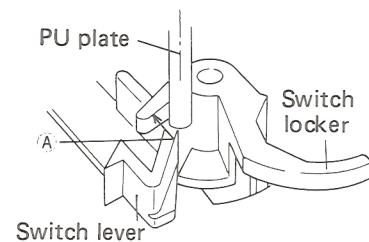

Fig. 4-3 Adjustment of switch locker
In order to turn the power OFF, the PU plate shaft touches surface (A) of the switch locker pushing it over so it locks with the switch lever turning the microswitch OFF (Fig. 4-3). If the amount of push on the switch locker is insufficient, it can not lock with the switch lever. With the tonearm locked in the arm rest, as shown in figure 4-4, attach the PU plate precisely midway between the first and second points from the arm base scale mark counting away from you.